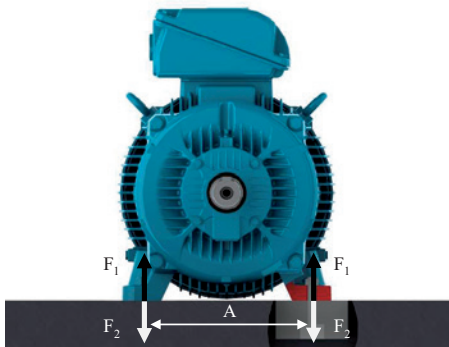

Figure 6.2 - Motor installed on concrete base
The foundation stresses can be calculated by using the following equations (see Figure 6.2):
- Concrete bases: are most used for large-size motors (see Figure 6.2);